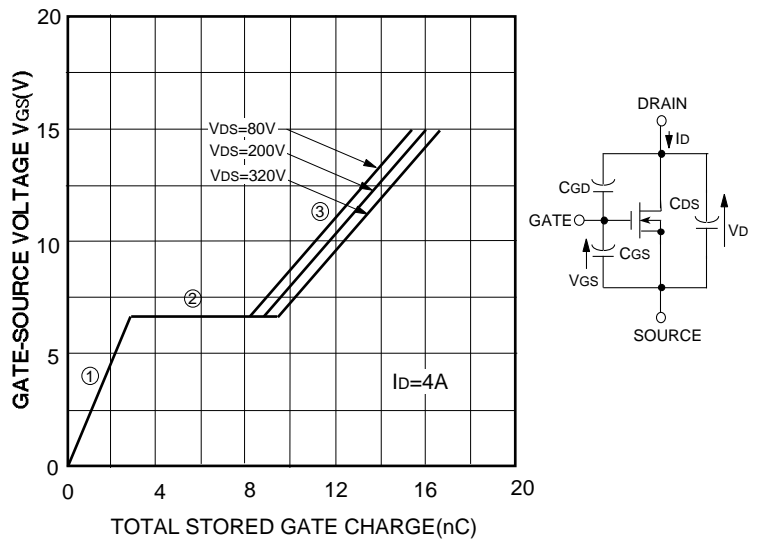

Fig.41 The relation between applied gate-source voltage and stored gate charge
Fig.41 shows the relation between the applied gate voltage and the stored gate charge. In the region ① ,the charge is mainly stored at Cgs as the depletion is spread and CGD is small owing to the off-state of MOS-FIT and the high drain voltage. In the region ② ,the CGD is multiplied by the "mirror effect" as the characteristics of MOS-FIT transfers from off-state to on-state. In the region ③ ,both the CGD and Cgs affect to the characteristics as the MOS-FIT is on-state and the drain voltage is low.